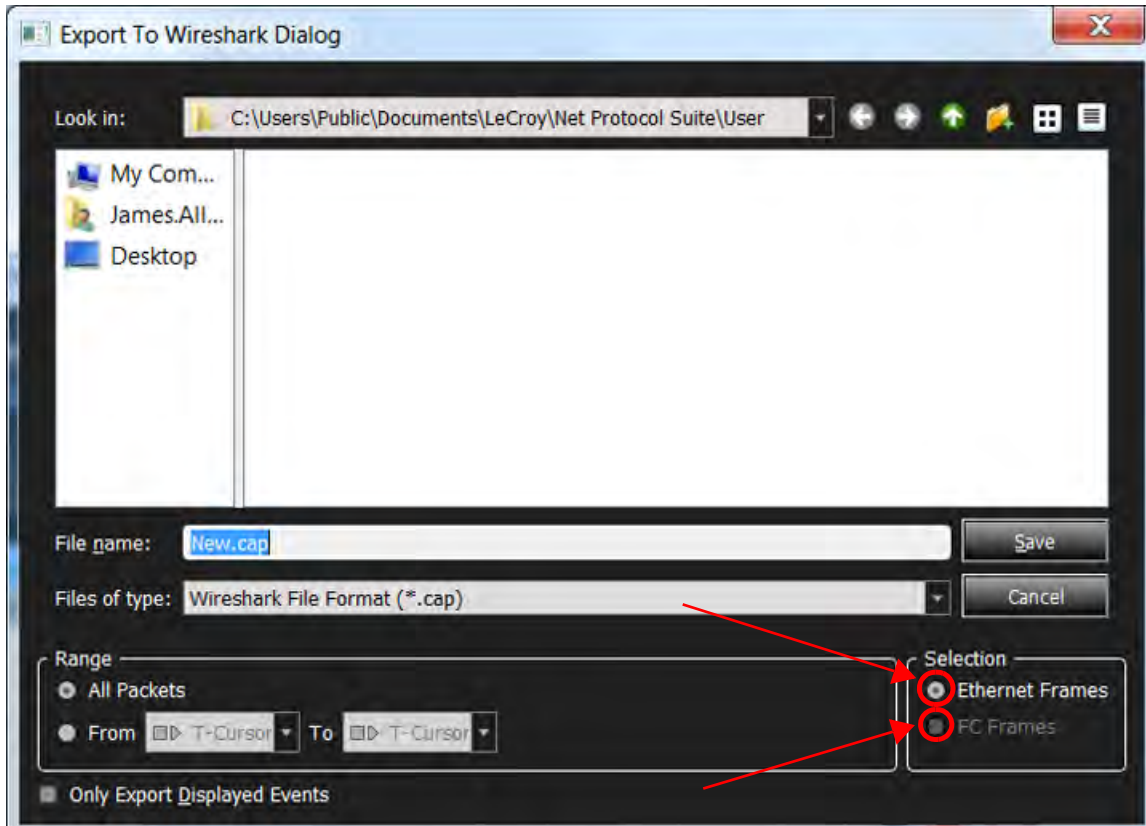

Figure 3.41: Export to Wireshark Window
The *Export to Wireshark* window appears (Figure 3.41).
- The Export to Wireshark window (see Figure 3.41) has an option to choose between Ethernet and FC export. This option is only available if the trace contains both protocols. Only the selected protocol frames will be exported